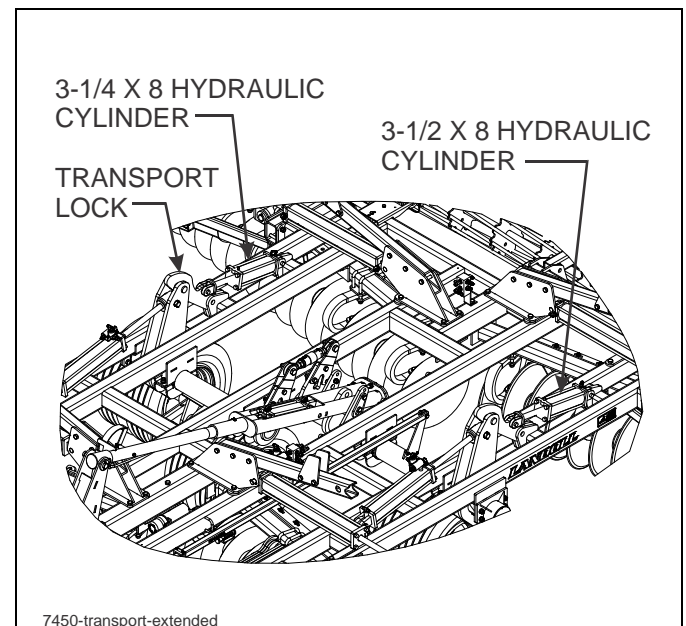

Figure 4-22: Installed Transport Locks
10. Install transport locks on both lift and fold systems. Do not depend solely on implement hydraulics for transport. (See Figure 4-22.)